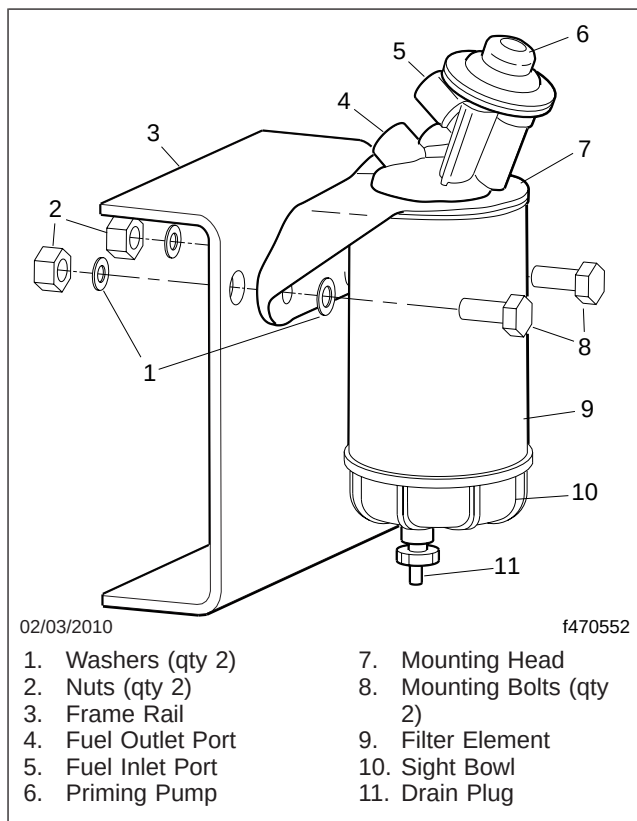

Fig. 1, Fuel/Water Separator Assembly and Installation
3. Turn the drain plug counterclockwise to open it. If equipped, operate the priming pump. See Fig. 1.